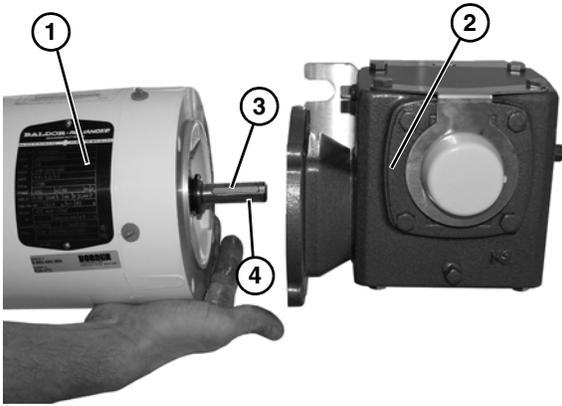

Figure 42
- Slide motor (**Figure 42, item 1**) off of gear reducer (**Figure 42, item 2**), and remove shaft key (**Figure 42, item 3**) from motor shaft (**Figure 42, item 4**).
- With key (**Figure 42, item 3**) in keyway on motor shaft (**Figure 42, item 4**), slide new motor (**Figure 42, item 1**) and gear reducer (**Figure 42, item 2**) together.